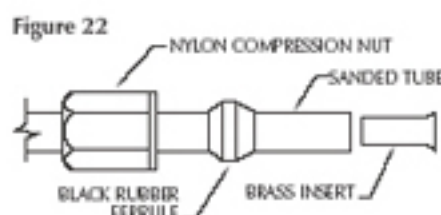

Figure 22
2. Slide the nylon compression nut and the black rubber ferrule onto the sanded plastic tubing and then fit the brass insert into the end of the plastic tubing. (Fig. 22)